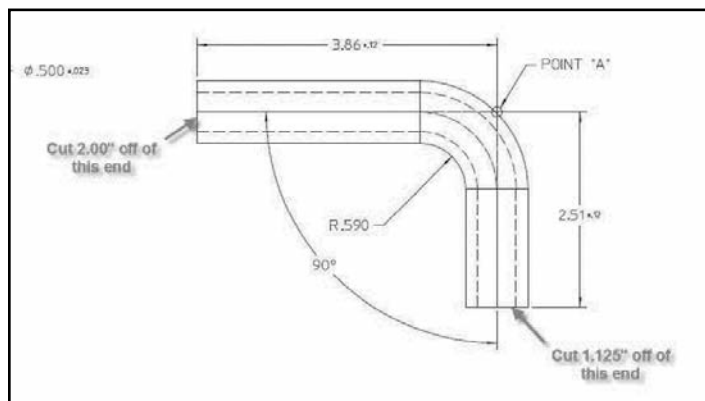

Figure 1
4. Next step is the installation of the breather system components. It will be necessary to shorten the supplied rubber hoses. **See Figure 1** below for dimensions.